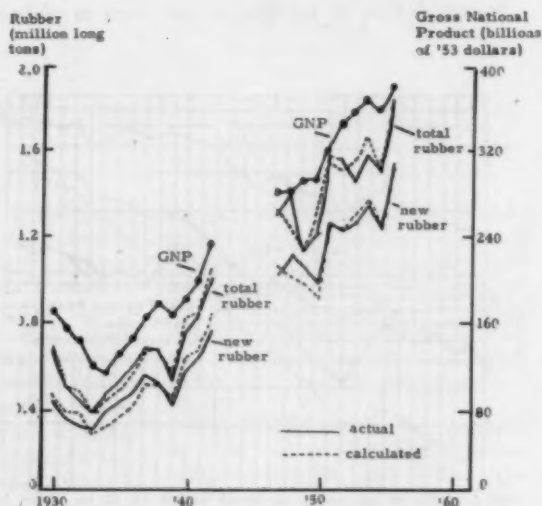

Figure 6. United States consumption of new and total rubber, actual and calculated, and gross national product.
In the next step of the analysis, total rubber consumption in the United States (synthetic, natural, and reclaimed) was plotted on the ordinate-axis of Figure 6 (as the dependent variable Y) versus the GNP on the abscissa-axis (as the independent variable X).
Using Equation (7), the percent error is very small in recent years, although it averages 7% for the period in which Equation (6) gave an average 4% error. The error should remain much smaller in the future since reclaim use is running at a fairly stable level (Figure 6).